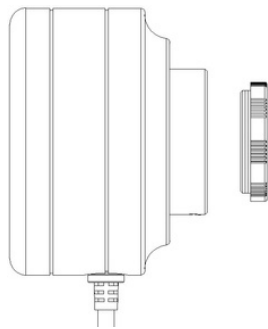

Figure1
- Unscrew the plastic dustproof cover at the bottom of the Digital Camera, take the protective film on the filter of the cavity (See Figure 1).